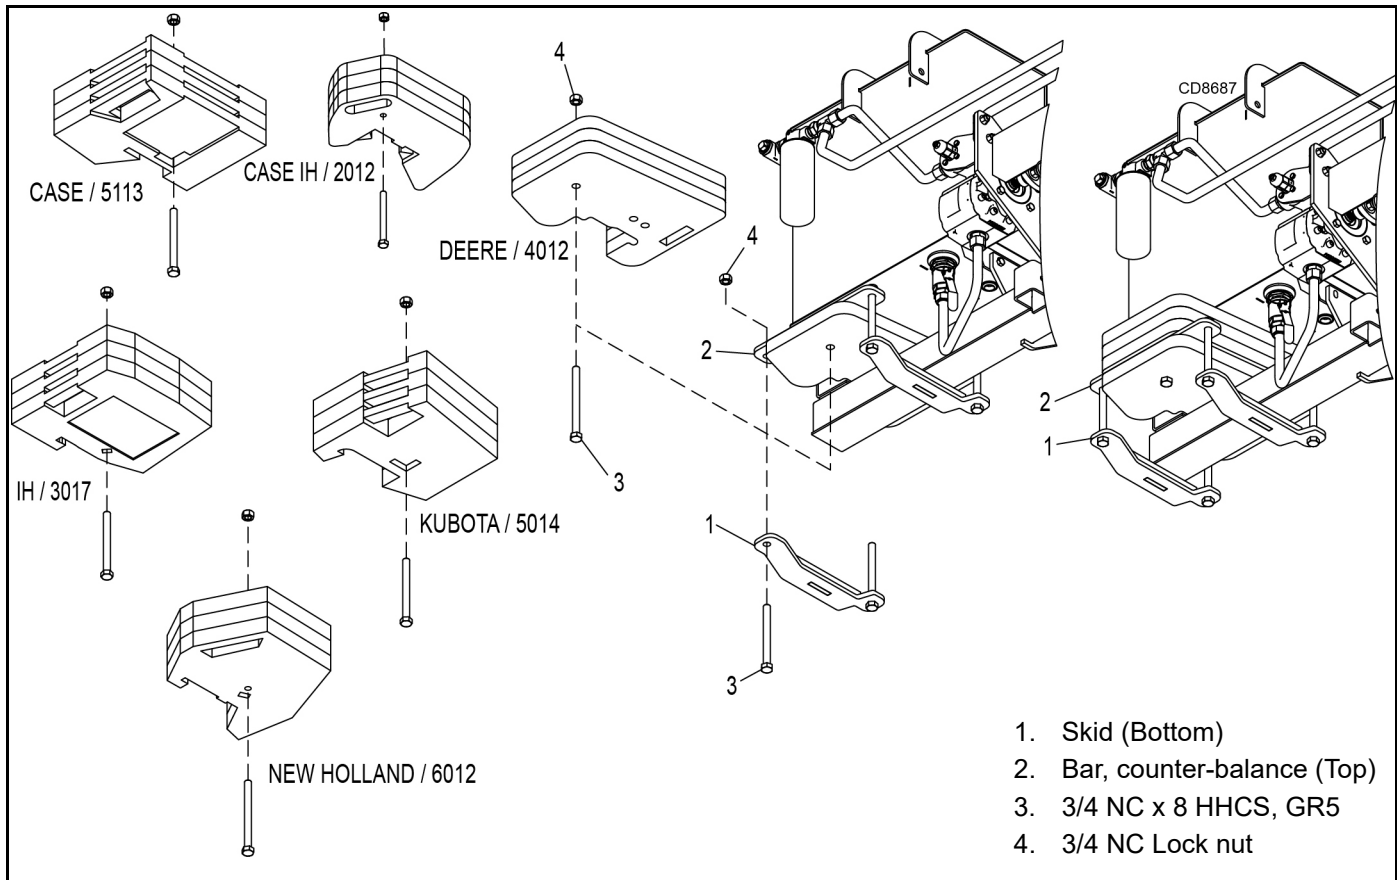

Figure 35. Counter Balance Weight Assembly
(See Figure 35)
Woods Ditch Bank Cutter can accommodate a variety of suitcase weights. Refer to Figure 35 to understand the application. Four counter balance bars (1) are provided with five 3/4" fastener sets (2 & 3) to secure one weight as shown. A fifth fastener set is provided to secure 2 to 3 additional weights to the first.
1. Remove four bars (1) and five fasteners (2 & 3) from hitch. A fastener set is located at the top hitch pin hole.
3. Attach four bars (1) with four fastener sets (2 & 3) to weight and hitch as shown. Torque to proper specifications stated in the back of this manual.